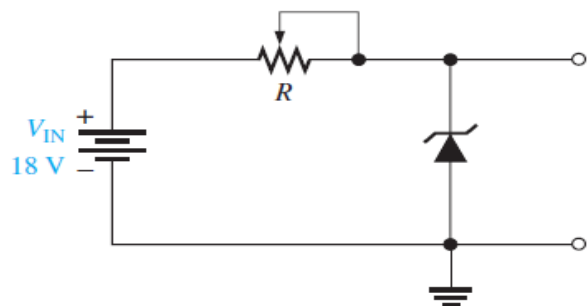

Figure 3
6. To what value must R be adjusted in Figure 3 to make  $I_z$  40 mA? Assume  $V_z = 12 \text{ V}$  at 30 mA and  $Z_z = 30 \Omega$ . And draw the output waveform if 20 V peak sinusoidal voltage is applied to this circuit in place of the dc source.